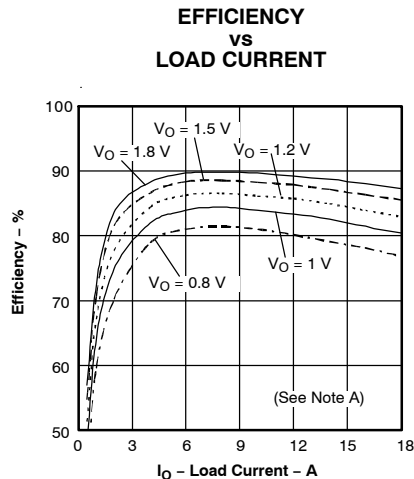
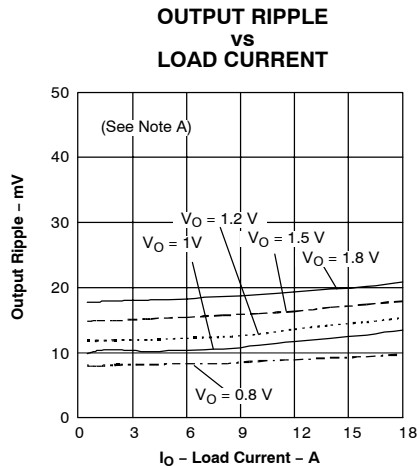
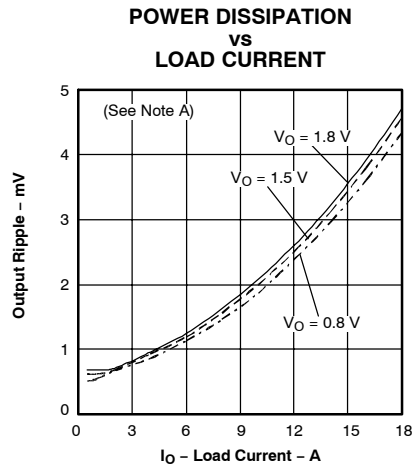

Figure 7.
Figure 8.
Figure 9.
- (3) The electrical characteristic data has been developed from actual products tested at 25°C. This data is considered typical for the converter. Applies to Figure 7, Figure 8, and Figure 9.